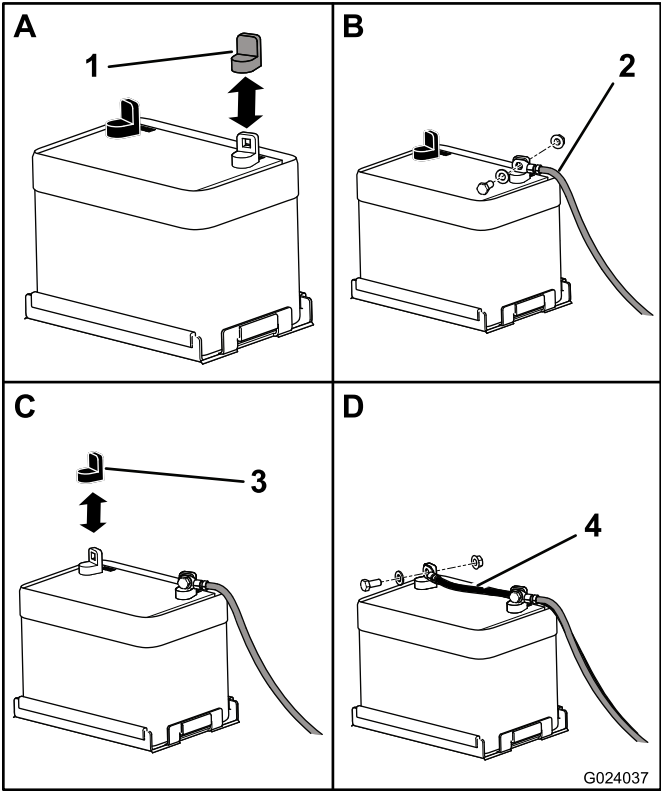

Figure 4
1. Remove the red plastic cover from the positive battery terminal (Figure 4).